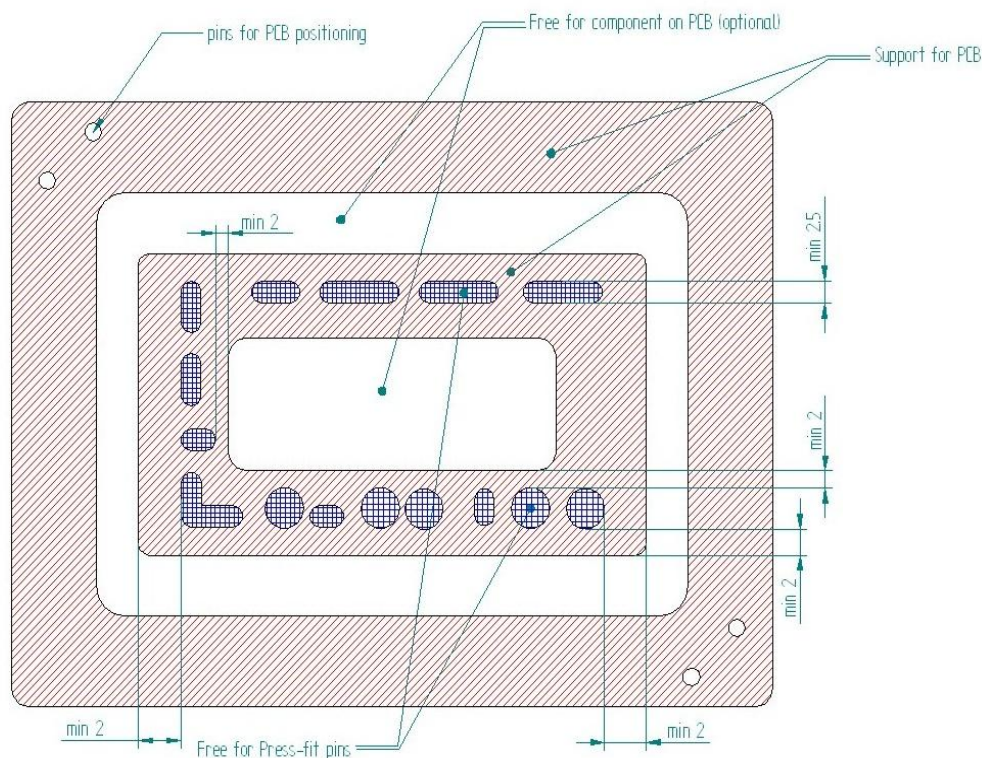

Figure 16: The recommended hole and cutout dimensions for supporting tool
- Figure 16 shows the recommended hole and cut-out dimensions for the Press-fit pins. The recommended diameter of the holes / cut-outs for the pins in the supporting tool is between 1.7 mm and 4 mm (depending on the positioning accuracy). The minimal supporting place around the pin is 2 mm. If the pins are close to each other then it is possible to make a lengthwise cut-out for more pins as well (the min. distance of PCB components from the PCB pinhole should also be considered here). It is necessary to position the PCB and the module as well. The depth of the cut-outs for the pins is 6 mm.